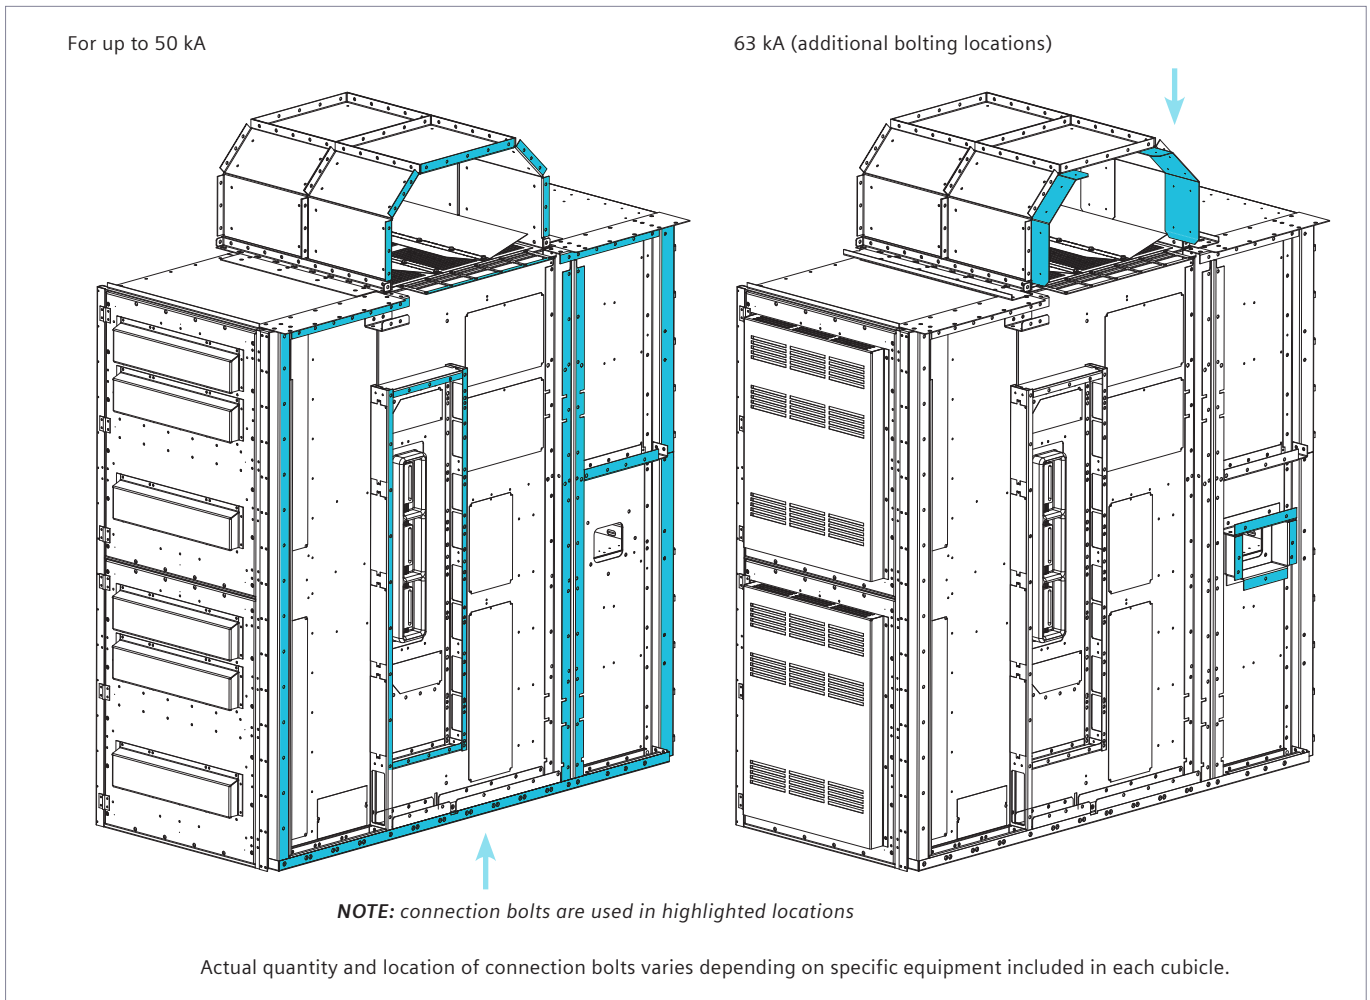

Figure 9: Interunit bolting locations
Indoor switchgear shipping groups are held in true alignment by bolts holding the vertical sections to each other. Figure 9: Interunit bolting locations on page 25 shows the location of the interunit fasteners used to attach sections together.
3. If the lineup consists of multiple groups, remove the interunit hardware that was supplied installed and move the next group into position with the front of units in line and tight against the adjacent group. Do not bolt groups together at this time. Check that the cubicles are in firm contact with the foundation at each corner and anchor point and that bolt holes are in alignment. Refer to Figure 9: Interunit bolting locations on page 25. Add 4" (102 mm) square shims as necessary. Tighten the anchor bolts.
4. Bolt the groups together by starting at the inner most interunit bolt locations (refer to Figure 9: Interunit bolting locations on page 25) and working outward towards the front and the rear of the equipment.